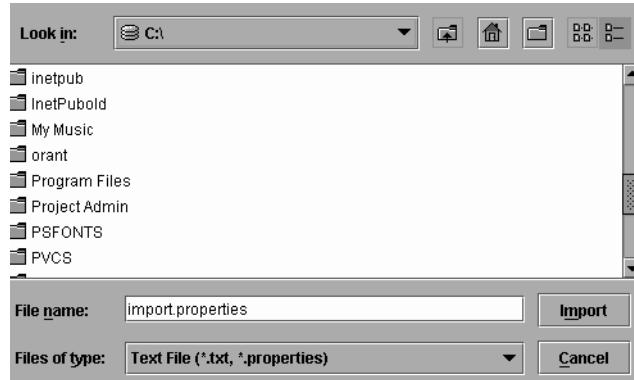

Figure 34: Import Nicknames Dialog Box
1. Click the **Import** button to display the **Import Nicknames** dialog box (Figure 34).